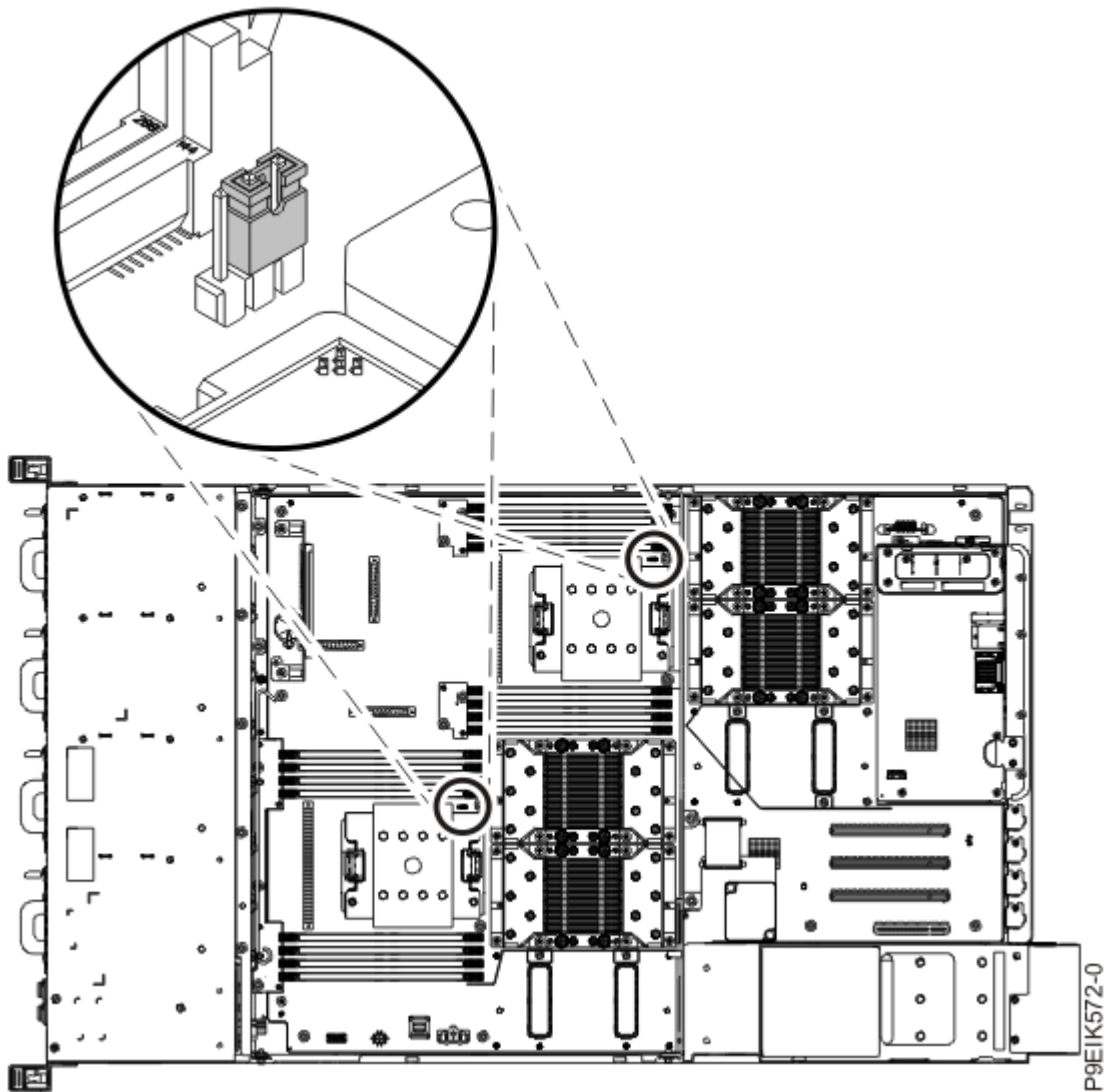

Figure 24. System processor jumper positions
12. Remove the system processor jumpers from the system backplane as shown in Figure 24 on page 39.